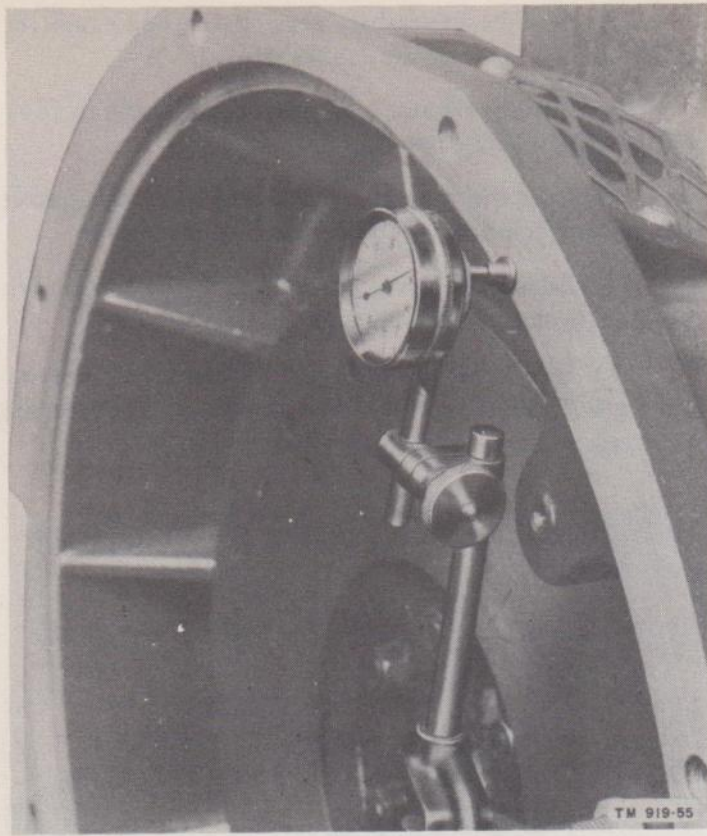

Figure 55. Checking face of flywheel housing with flywheel.
(3) Check the face of the flywheel housing with a dial indicator as shown in figure 55. The housing should be parallel to the flywheel face within .003 inch. If the housing is not parallel, place shims between the engine block and the flywheel housing. Then recheck until the desired reading is reached. Be sure to tighten the bolts before each recheck.